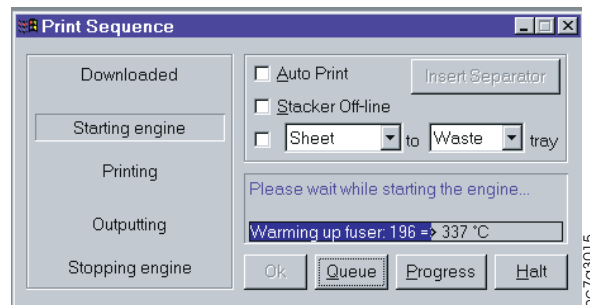

Figure 161. Print Sequence Window
1. The **Print Sequence** window opens automatically. The **Print Sequence** window contains printing controls, a status area, and a message area. See Figure 161.